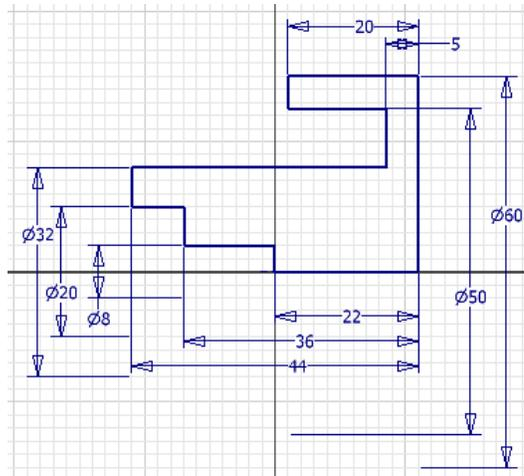

Figure 3-55 Fully constrained sketch for Tutorial 2
- Apply **Coincident Constraint** between the origin and lower left vertex of the sketch to make it a fully constrained sketch, refer to Figure 3-55.
16. Choose the **Zoom All** tool from the **Navigation Bar > Zoom** flyout to fit the sketch into the drawing window. The fully constrained sketch after adding all dimensions is shown in Figure 3-55.